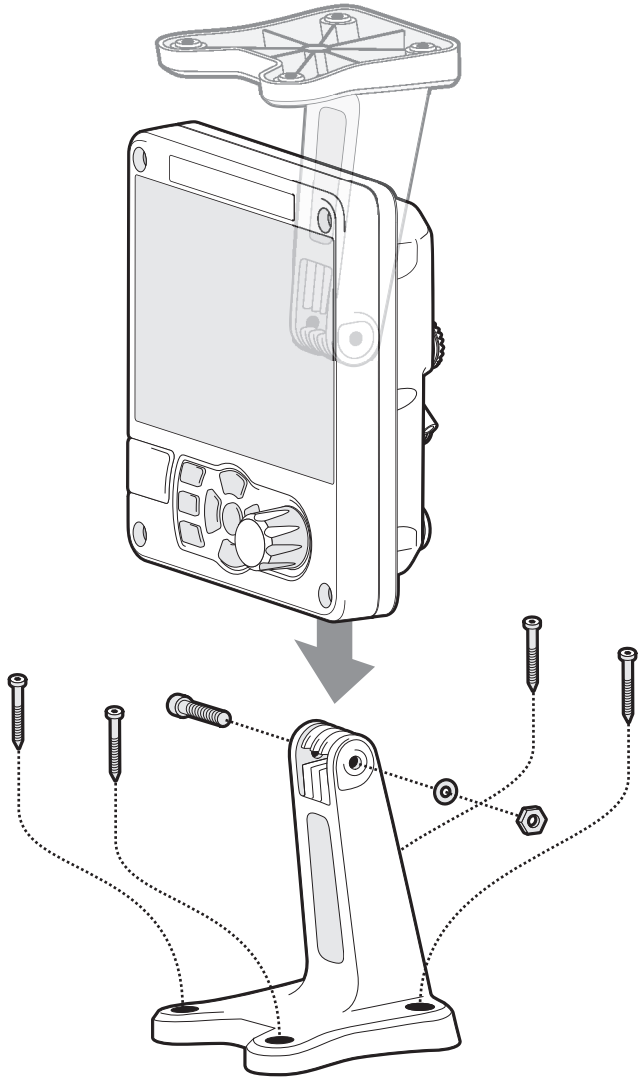

Figure 5 Desk Mounting the AIS Transceiver
- The transceiver is supplied with four self tapping screws for attachment of the AIS transceiver to a suitable surface using the supplied bracket. Please refer to Figure 5 for guidance.